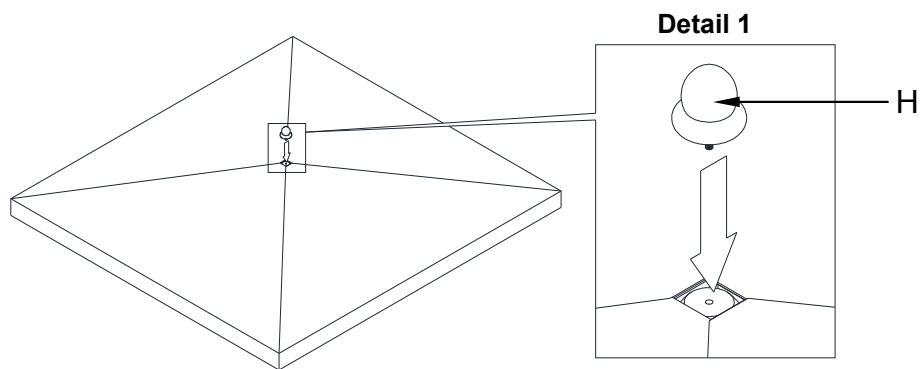

Fig. 10
10. Assemble the Finial (H) by turning to the center pole of the top frame. (See **Fig. 10**) Detail 1.